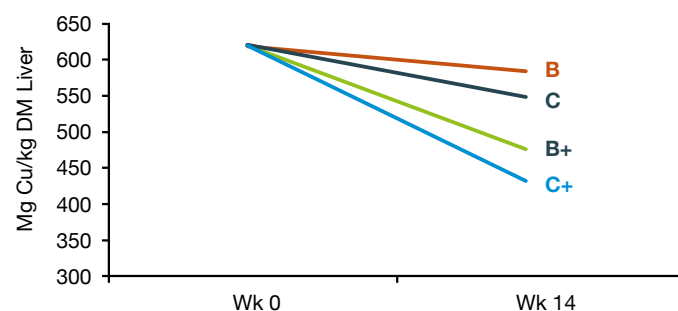

Figure 41. Effect of diets on liver Cu concentrations at Week 0 and 14
- Liver Cu decreased across all treatments, because S and Mo levels were high (Figure 41)